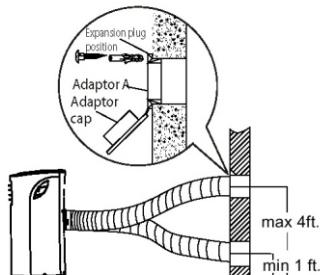

Fig.16
1. Prepare a hole in the wall and install the Wall Adaptor to the opening (from outside). Secure with 4 expansion plugs and screws. Fig.16.